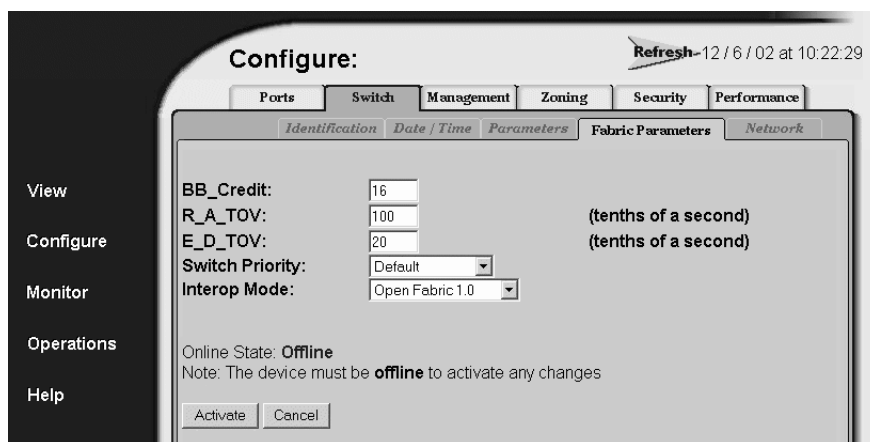

Figure 46: Switch page—Fabric Parameters tab
3. At the **Configure** panel, click the **Switch** tab, then select **Fabric Parameters**. The **Switch** page displays with **Fabric Parameters** (Figure 46).